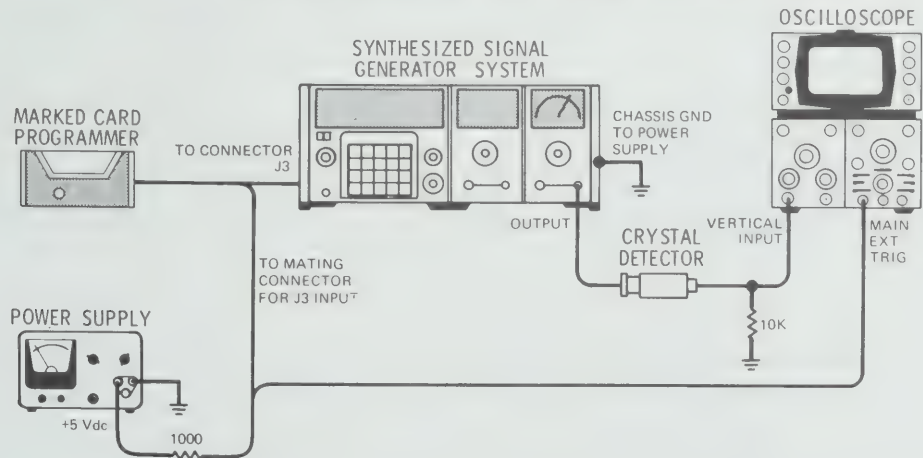

Figure 4-3. Output Level Switching Time Test Setup
1. Connect equipment as illustrated in Figure 4-3. Note that +5 volt output from DC Power Supply is connected through a 1000 ohm resistor to pin 17 of mating connector to J3 and to Oscilloscope external trigger input.